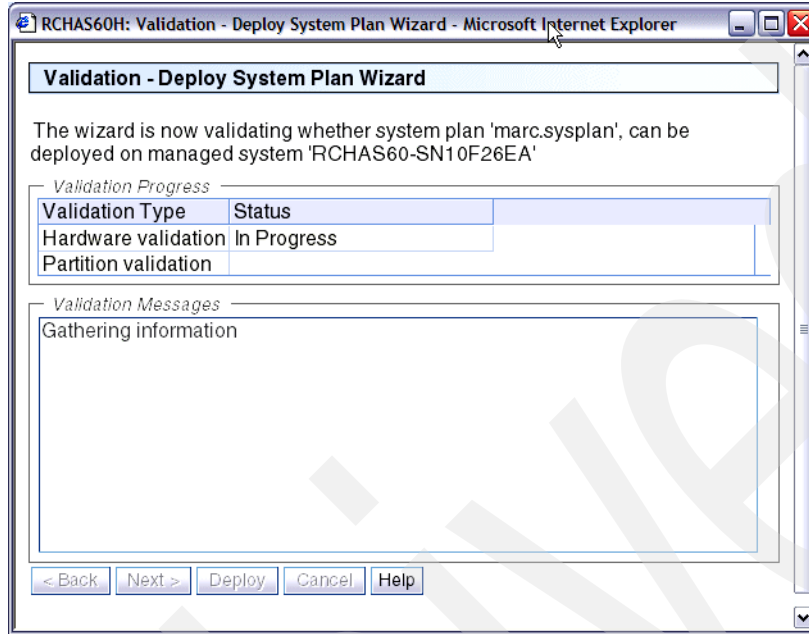

Figure 3-21 Deployment validation in progress
- The next display (Figure 3-21) shows you the validation progress. When this has completed, you can examine all the related messages — those that are successful validation ones as well as those that are unsuccessful.